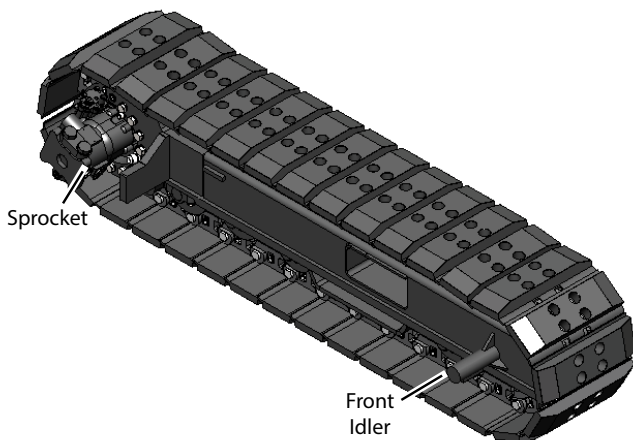

Figure 5-27. Front Idler
Follow this procedure for replacing the front idler (**Figure 5-27**):
1. Follow **Steps 1 - 4** in the previous section. The track tension cylinder is located behind the front idler. (**Figure 5-27**)
6. Remove bolts holding sprocket. **(Figure 5-27)**
6. Remove the two (2) bolts holding the drive motor to the torque hub. **(Figure 5-27)** Support the undercarriage with a forklift or jack before lowering to the ground.
7. Unbolt the two (2) trunnions on the front of track undercarriage and stops at each side of the rear of the undercarriage.